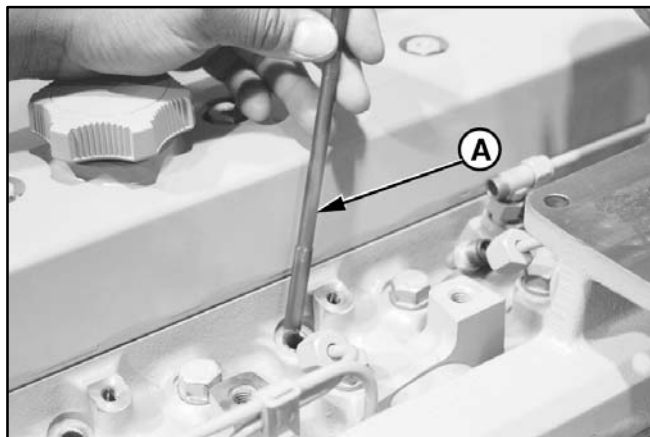

FIGURE 7-17. CLEANING INJECTION NOZZLE BORE
5. Clean the injection nozzle bore using nozzle bore cleaning tool JDE39, (A) in Figure 7-17. Blow debris from the hole with compressed air and plug the hole to prevent entry of debris.